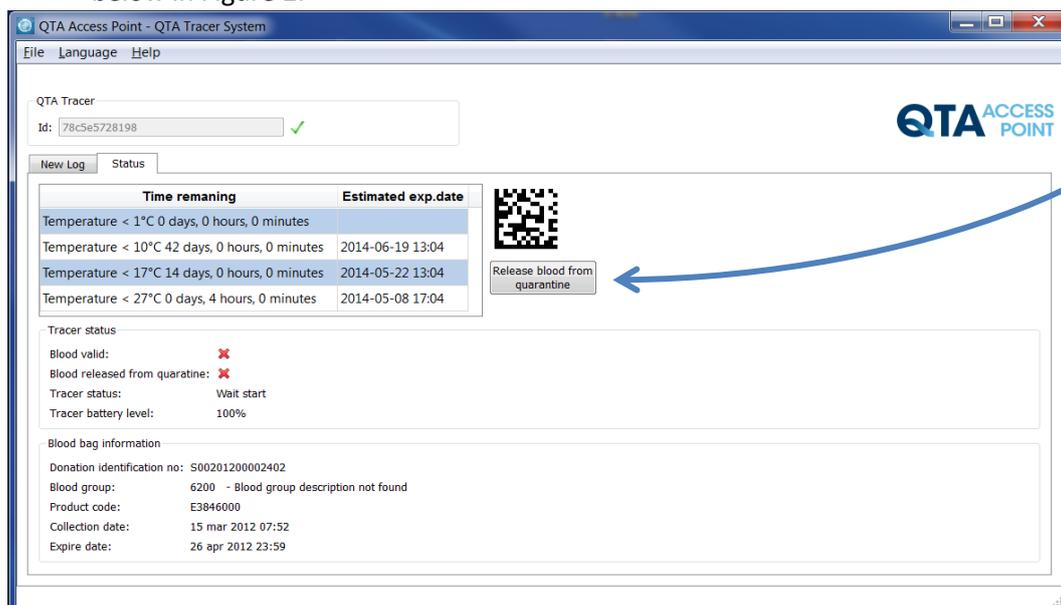

Figure 1 Release blood
1. Select the “Status” tab. Status is shown as below in Figure 1.
See below in Figure 1.